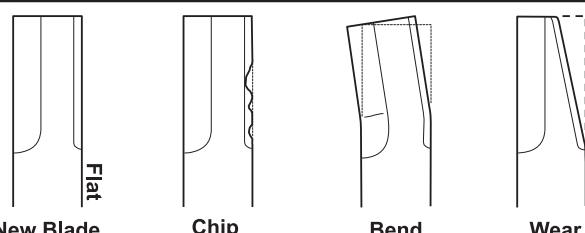

Fig. 33
- 1 Confirm that there is no chip, bend, or wear with Blade (S). (See Fig. 33)